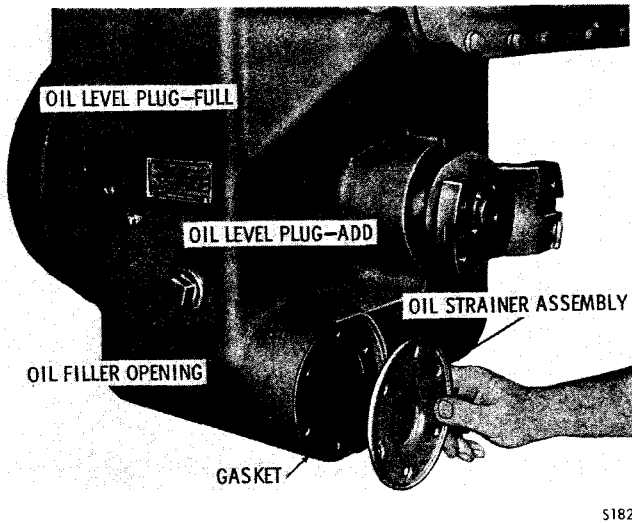

Fig. 5-2. Removing oil strainer and gasket
c. Oil Strainer Assembly. Remove the six bolts and lockwashers that retain the oil strainer assembly (fig. 5-2). Remove the strainer assembly and gasket. Remove the oil level plugs and (if present) the oil filler plug or fittings.